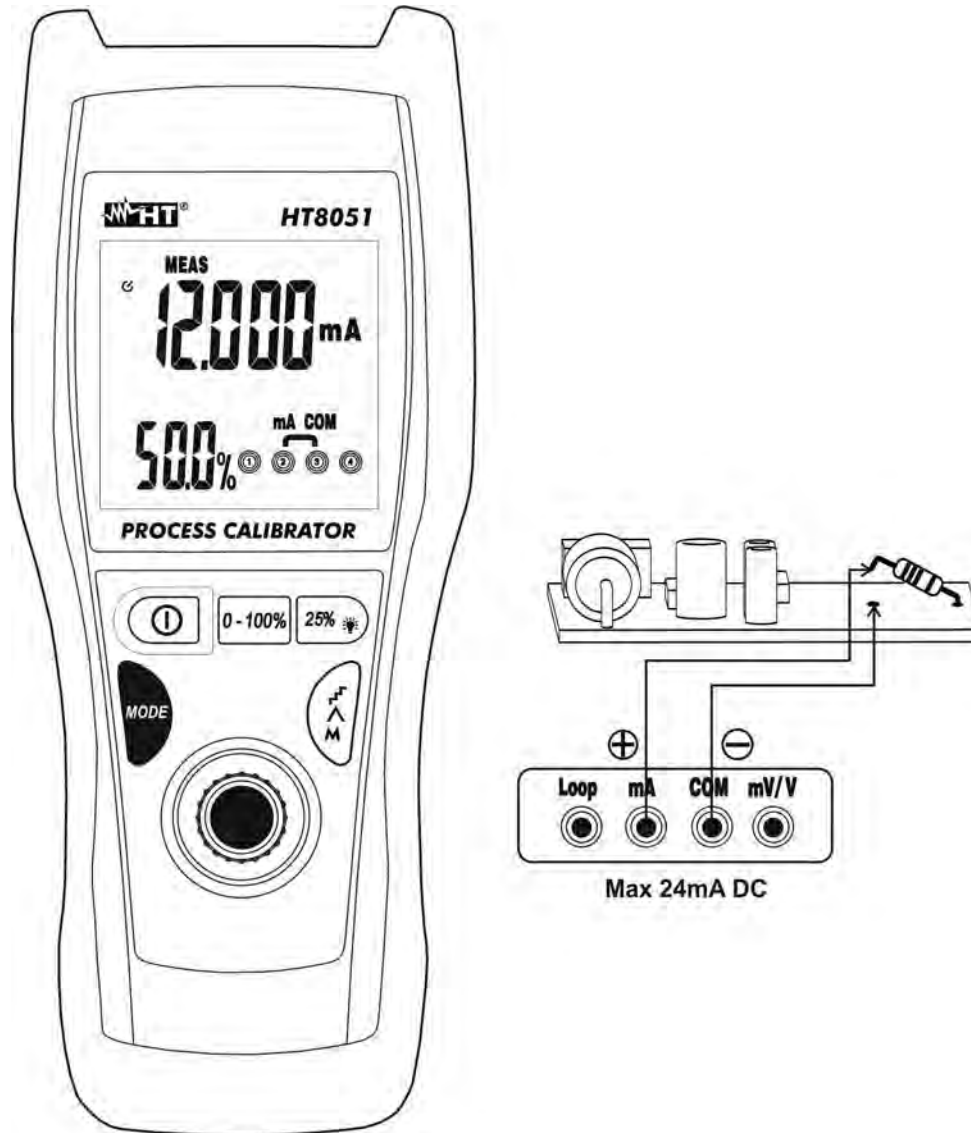

Fig. 5: DC current measurement
4. Connect the green lead and the black lead in series to the circuit whose current you want to measure, respecting polarity and current direction (see Fig. 5)
6. The message “-OL-” indicates that the current being measured exceeds the maximum value measurable by the instrument. The instrument do not perform current measurements with opposite polarity respect to the connection in Fig. 5. The value “0.000” is shown at display